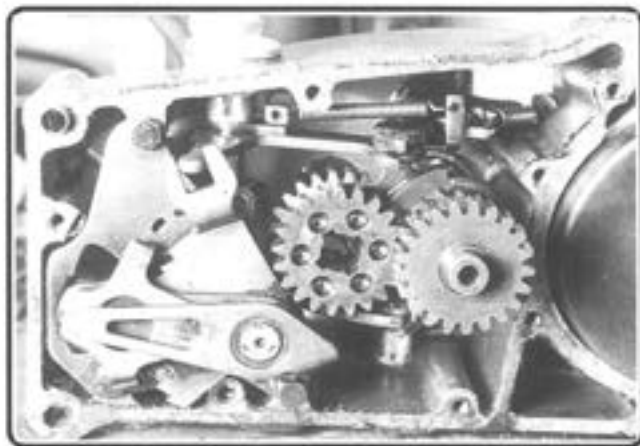

Figure 37. Layshaft and sliding gears.
- 22.5. Connect the *sliding gear (4-138)* and the *selector bridge (5-167)* to the sliding gears on the layshaft and install these parts as a unit. Figure 37 shows these parts in the crankcase waiting for the mainshaft to be inserted.